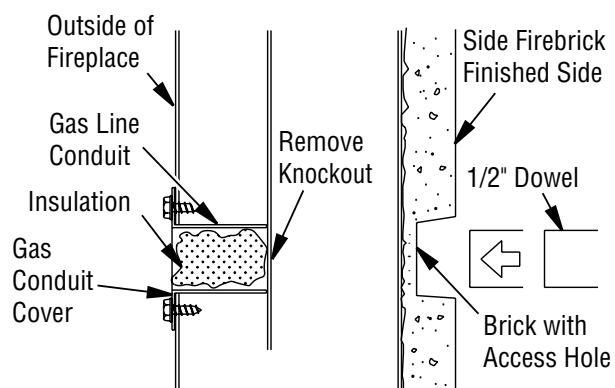

Figure 16 - Gas Line Access
1. Remove knockout indentation on refractory or firebrick wall located above refractory hearth floor. Knockout indentation must be firmly tapped with any solid object such as a 1/2" dowel until it is released. Remove fragmented portions of refractory (*see Figure 16*).